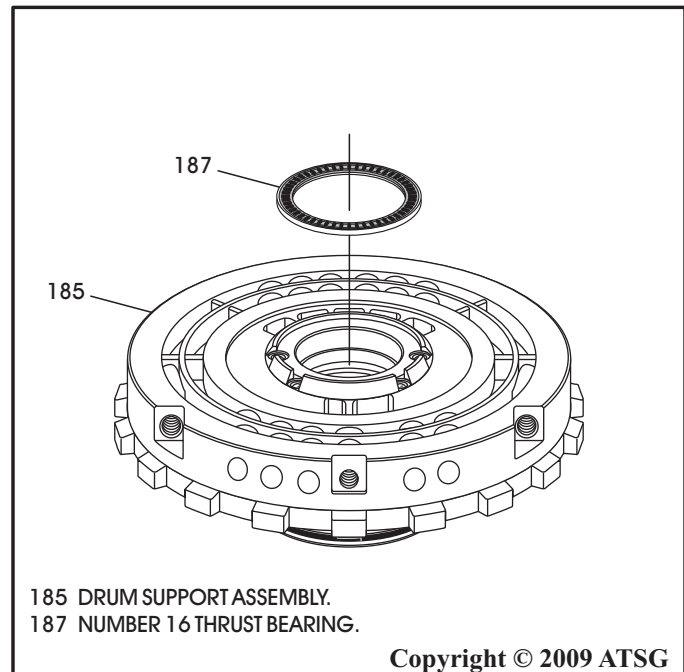

Figure 63
63. Remove the number 16 thrust bearing from the back side of support, as shown in Figure 63.